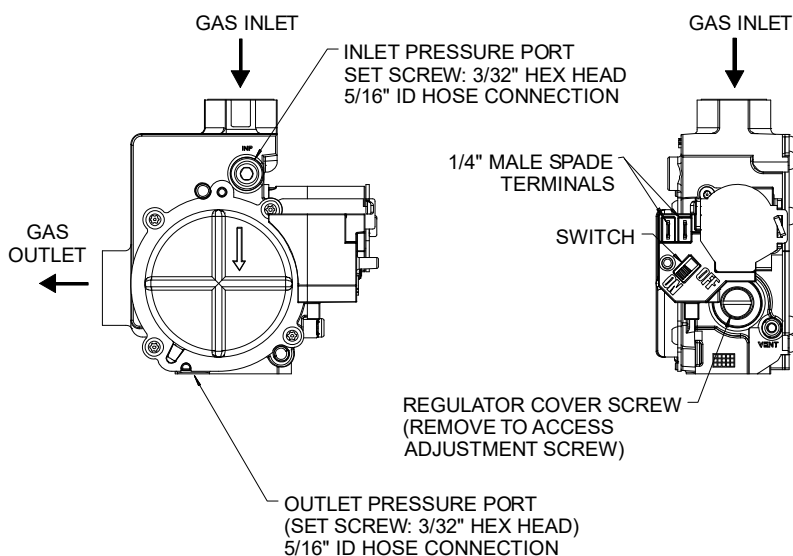

FIGURE 29 – Gas Valve
3. Check that the position of the gas valve switch is in the "on" position (see FIGURE 29 – Gas Valve).